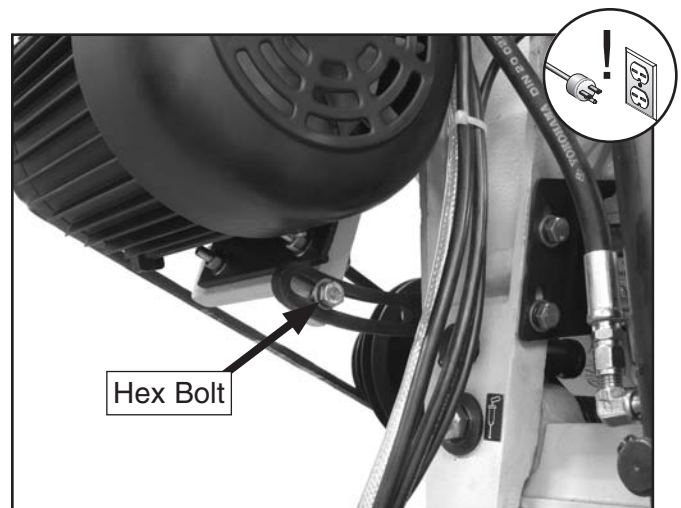

Figure 34. Belt tension bolt.
3. With one hand, support the weight of the motor; with the other hand, loosen the hex bolt shown in **Figure 34**. The motor will drop and the V-belt will slacken.